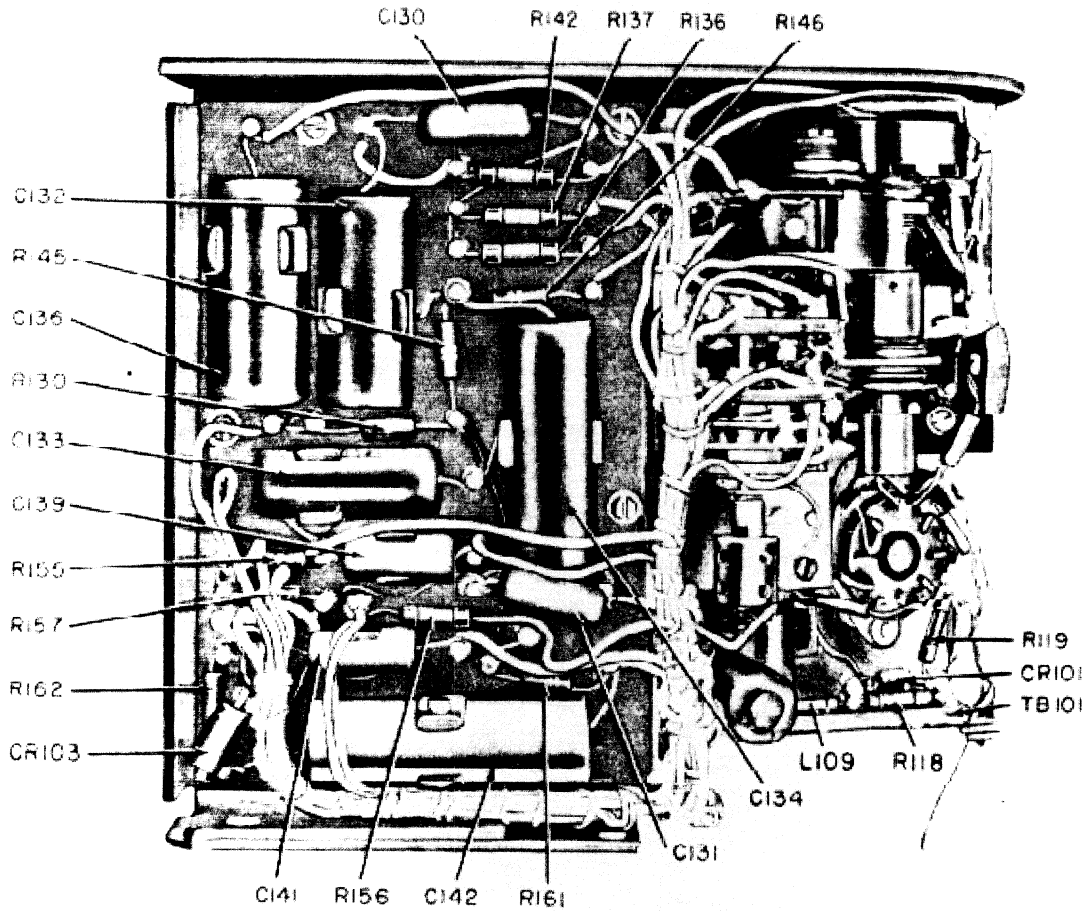

Figure 7-10. Bridge Assembly Components
3. RF OSCILLATOR a. INOPERATIVE ON ALL BANDS	(1) Check voltages on RF oscillator tube (V101). See table 7-5.  Note Operation of SET RF OUTPUT control (E101) will vary plate voltage. Cathode voltage will be obtained only on bands covering 10 to 1500 kilocycles.  (2) Make resistance measurements on V101 socket. Refer to table 7-6. (3) Test V101.
b. INOPERATIVE ON 1 OR MORE BANDS	(1) Check continuity and resistance of components of transformer assembly concerned. (2) Check operation of contacts between turret plate and oscillator assembly contact plate. (3) Replace RF oscillator tube (V101). May be inoperative at certain frequencies.
c. ERRATIC OPERATION	(1) Check contacts between turret and oscillator contact plate. (2) Check tube (V101) and substitute a new tube if necessary. (3) Check tuning capacitor (C101) and (C102) for dirty contacts, bent plates etc. (4) Check oscillator transformer assembly of band concerned for poor connections.
4. RF-METERING CIRCUIT	(1) Check diode CR101. (2) Check continuity of circuit.
5. AUDIO OSCILLATOR a. INOPERATIVE ON BOTH 400 CYCLE AND 1000 CYCLE POSITIONS	Note If both audio oscillator ranges are inoperative the probability is that a tube (either V104 or V105) is defective on some component common to both frequencies.  (1) Check tubes (V104) and (V105). (2) Check setting of the DEGEN control. Vibration may have changed its setting. Clockwise rotation of this control may start audio oscillator.  Note The position of the DEGEN control (R143) is a critical adjustment.
b. REGENERATION CONTROL ADJUSTMENT	(1) Turn % MOD control (E104) fully clockwise. (2) Turn DEGEN control (R143), (see figure 7-10), until audio oscillations start. Do not advance beyond this point as distortion of the audio signal will result.
c. INOPERATIVE ON EITHER 400 OR 1000 CYCLE POSITION	(1) Check bridge circuit resistances R136, R137, R140, and R141.  Note The bridge resistors are of 1 percent tolerance and should be checked on a resistance bridge. An ohmmeter measure is not suitable, as a change of 5 percent in value can cause defective operation.
6. MODULATOR STAGE NO MODULATION OF RF CARRIER, AUDIO OSCILLATOR OK	(1) Check voltages at modulator tube socket (V106). Refer to table 7-5. (2) Test tube (V106). (3) Check setting of MOD METER ADJ (R158). See section 7, paragraph 19. (4) Test RF modulated amplifier cathode capacitor (C114). When C114 is open virtually no modulation of the carrier will take place.